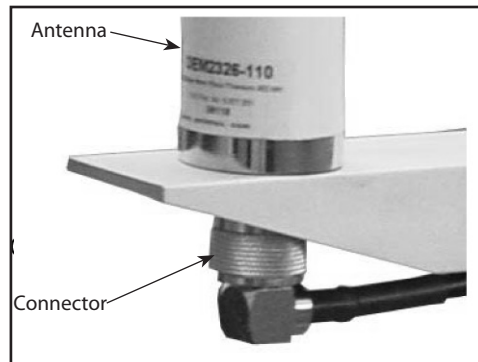

Figure 15: Coaxial Cable Attachment to Antenna Base
11. Ensure the coax connector attached to the bottom of each antenna is firmly seated and connected. Torque connector finger tight, then tighten an additional 1/8 turn (see Figure 15).